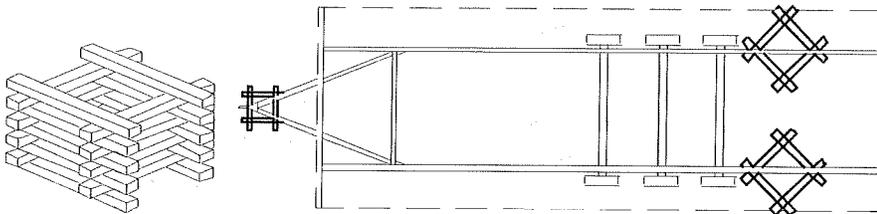

Figure 15. Stack 4" x 6" by 5' long timbers as shown to form safety timbers. Place safety timbers under home behind axle area and under hitch.
Utilize proper cribbing. Manufactured homes weigh several tons. No one should be under the home (whether it is moving or stationary) unless proper cribbing is in place (**Figure 15**). Failure to utilize proper cribbing may result in serious injury or death.
- Make sure adequate safety cribbing (Figure 15) is in place whenever the home is placed on jacks.
2. **Install cribbing.** Install safety cribbing (Figure 15).